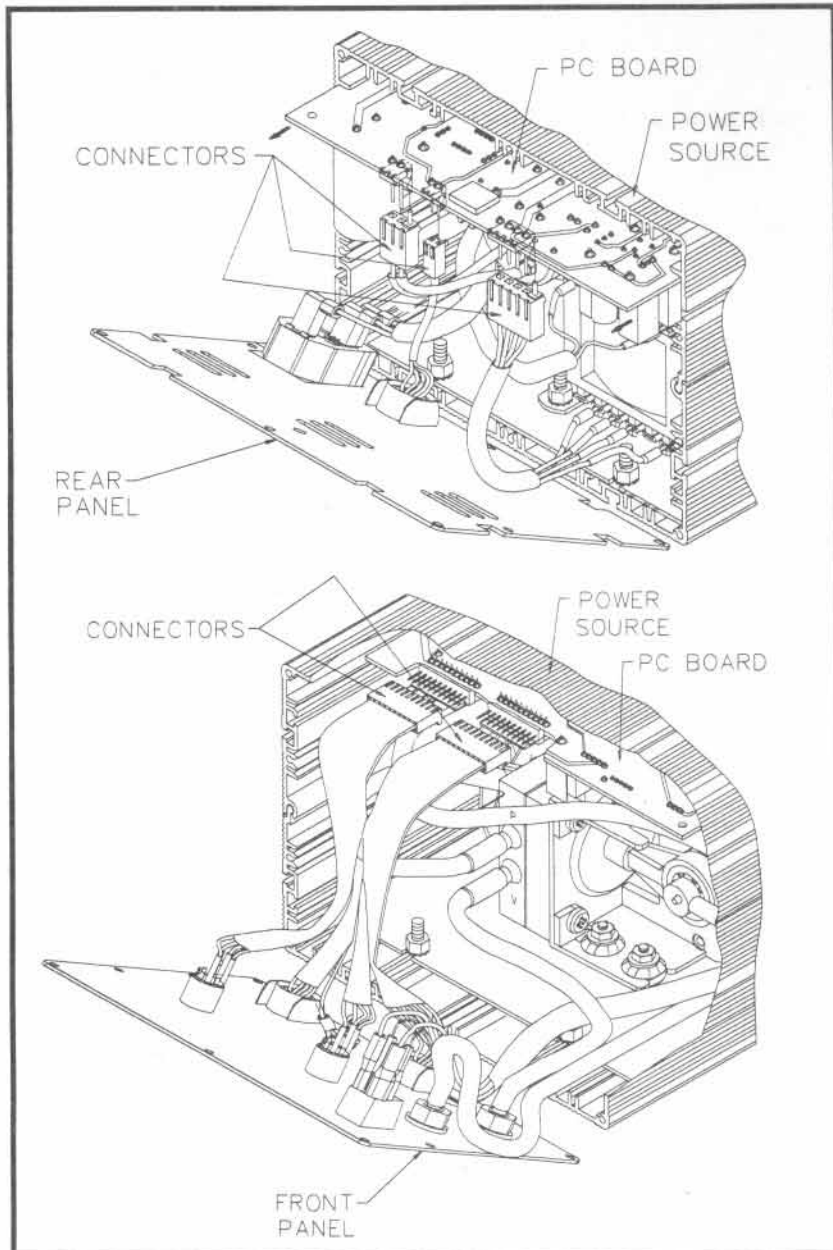

Figure 7. Removing PC Board
- a) Insure that the PC Board is installed in the top slot in the chassis. Refer to Figure 7, page 18.